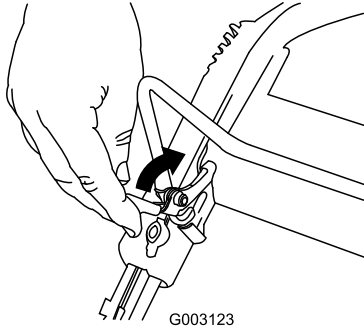

Figure 20
To shut off the engine, press and hold the engine-shutoff button (Figure 20) until the engine shuts off.
1. Pull the control-bar lock back (Figure 20).